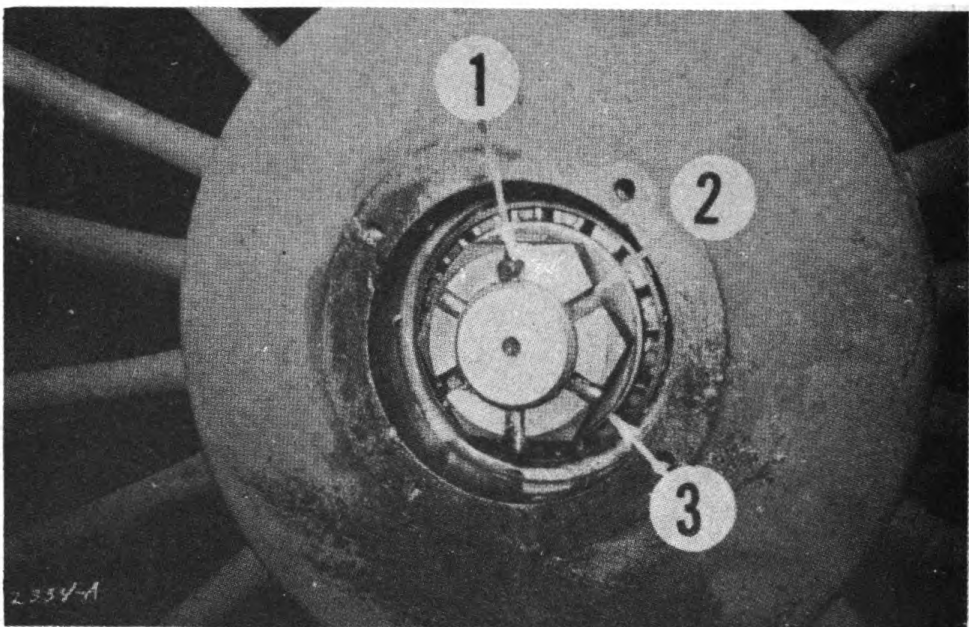

Figure 9. HUB CAP REMOVED
4. Put Timken washer (3) and Timken nut (2) on end of spindle. Tighten nut fully, then back off nut 1 - 2 notches until cotter pin (1) may be slipped in place and locked. Wheel must turn freely. See Figure 9.